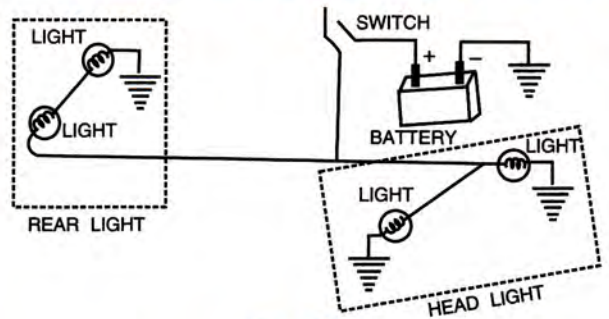

Fig. 9.8
3. The diagram in Fig. 9.8 shows the electrical system of a car to operate the two head lights and two rear lights by a switch.